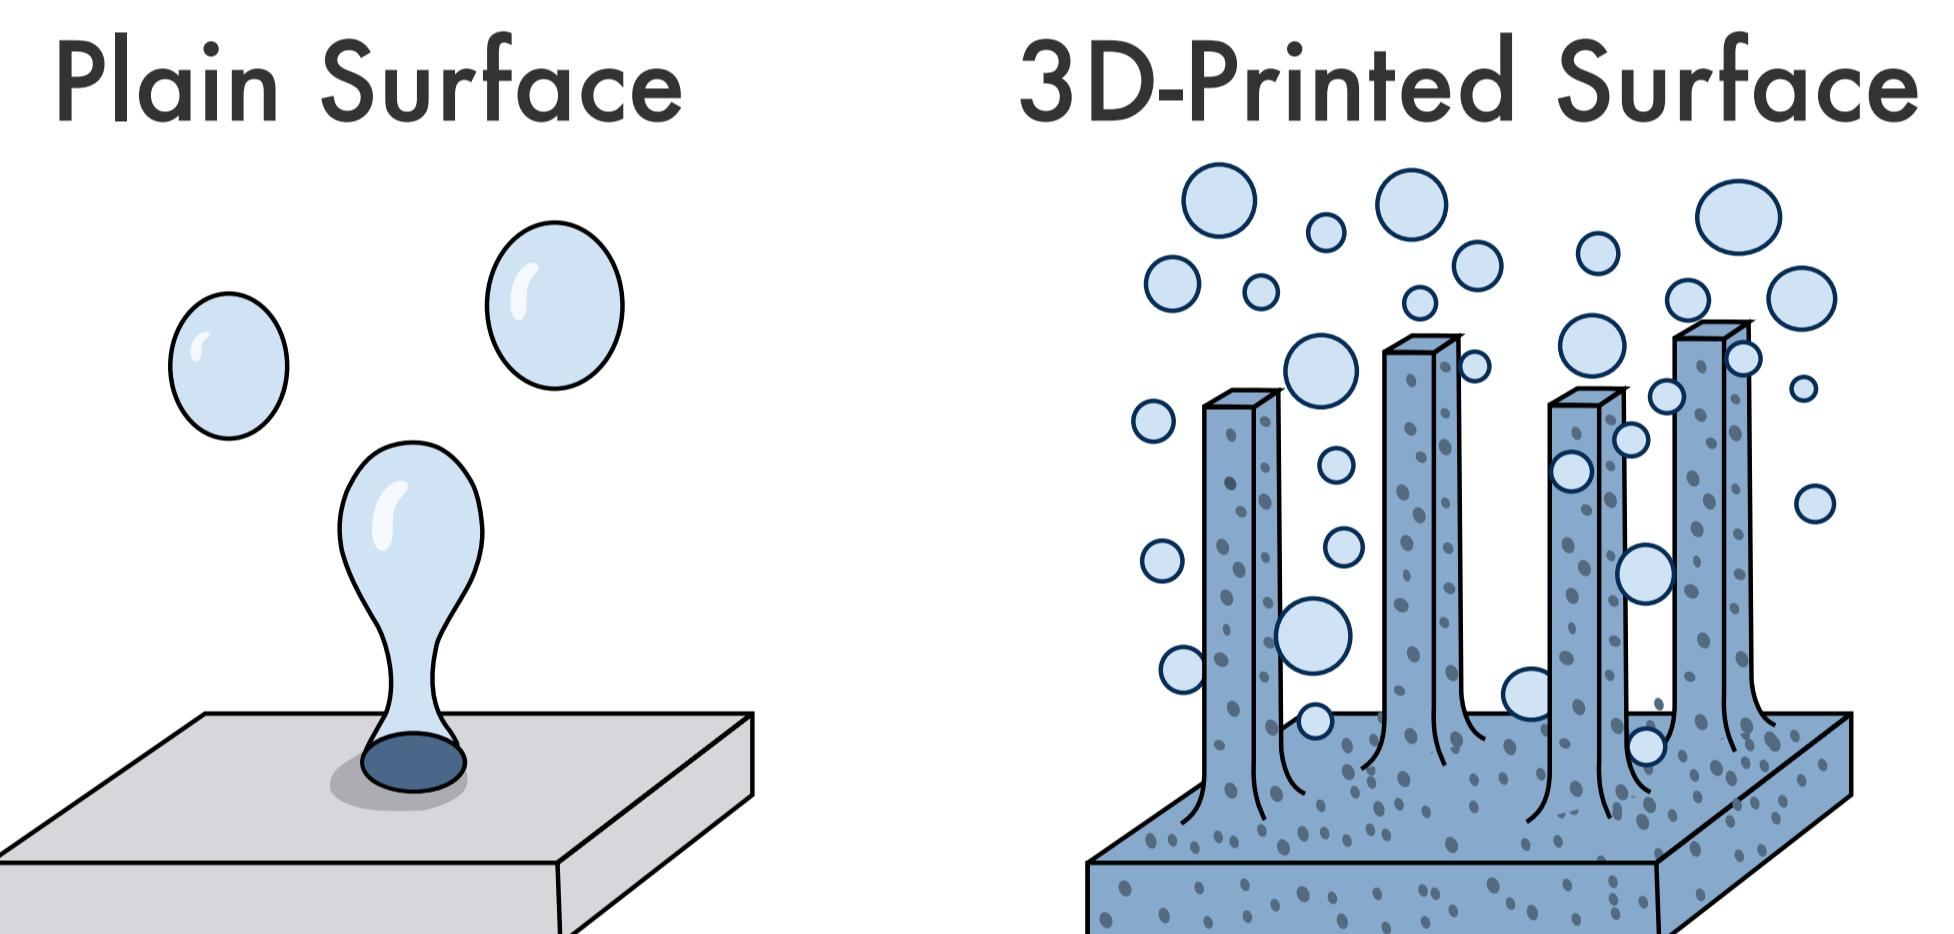

Figure 2. Plain vs 3D-Printed Surface Showing Enhanced Bubble Generation.
- 3D-Printed Surface Improves Boiling by Adding Roughness & Porosity for Better Heat Transfer (Fig. 2).